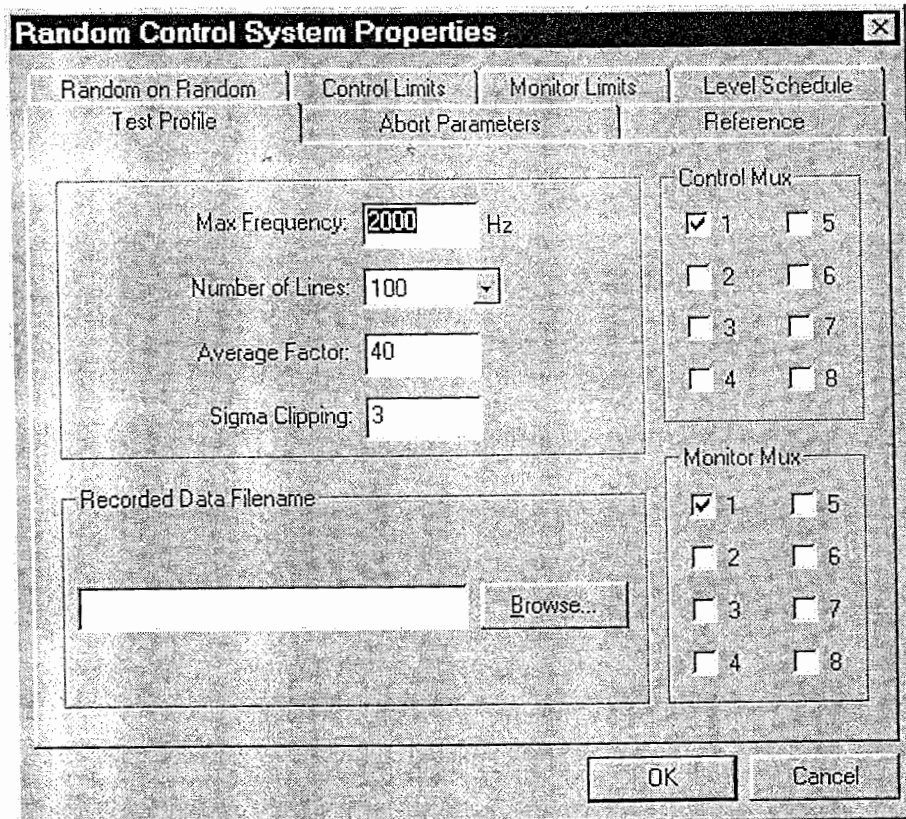

Figure 1-4. Random Control System Properties Window.
- To edit the test displayed on the WinVCS widow, select Test Options from the Options menu. WinVCS displays the Properties window for the vibration mode. Figure 1-4 shows the Random Control System Properties window. The window provides tabbed access to the same displays that are used by the Test Definition wizard.